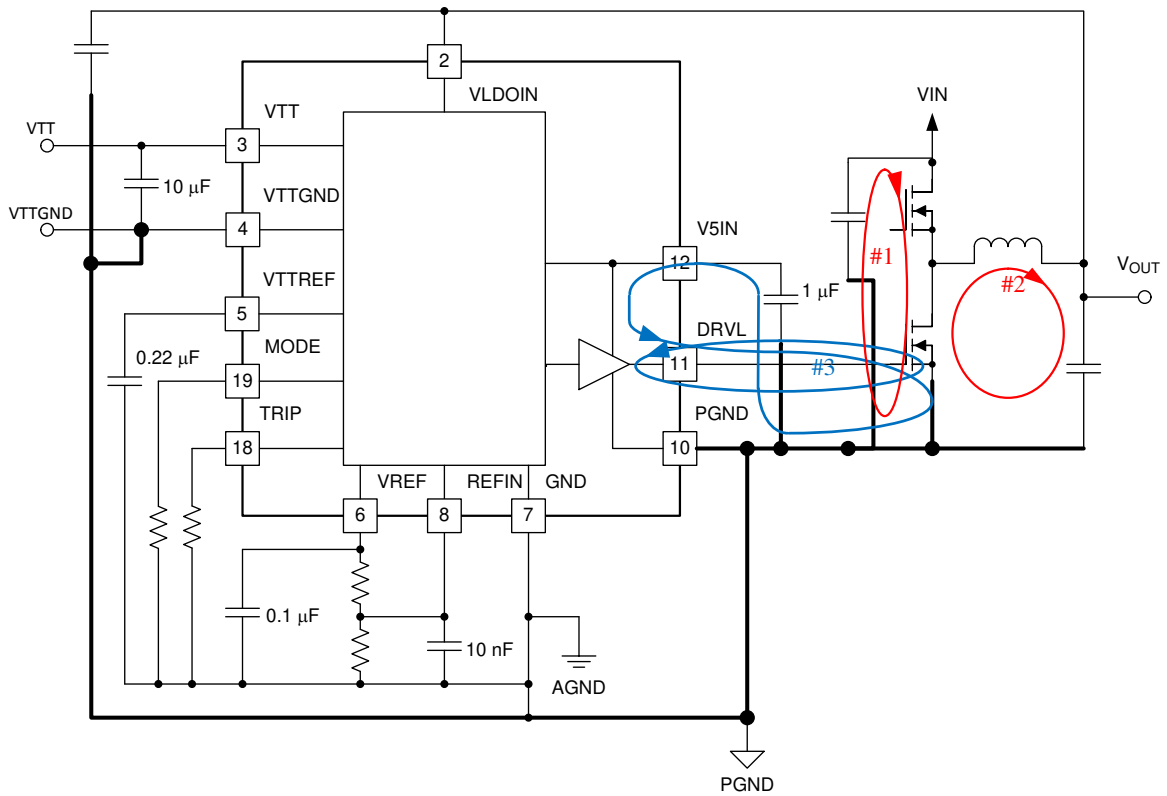

Figure 47. DC/DC Converter Ground System
- The third important loop is of gate driving system for the low-side MOSFET. To turn on the low-side MOSFET, high current flows from V_{5IN} capacitor through gate driver and the low-side MOSFET, and back to negative node of the capacitor. To turn off the low-side MOSFET, high current flows from gate of the low-side MOSFET through the gate driver and PGND pin, and back to source of the low-side MOSFET. Connect negative node of V_{5IN} capacitor, source of the low-side MOSFET and PGND pin as close as possible. (Refer to loop #3 of Figure 47)